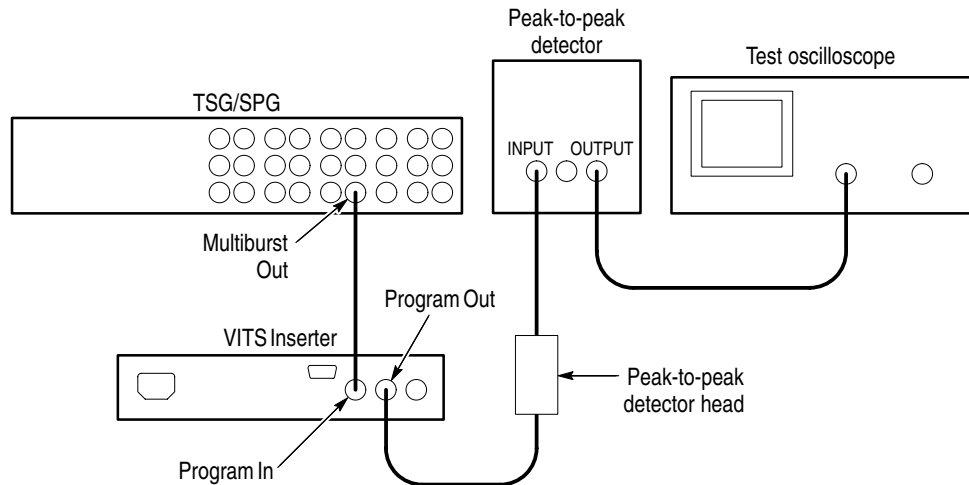

Figure 5–12: Measuring frequency response
11. Check that the sweep envelope matches the previous waveform ± 4.3 mV from 2 MHz to 6 MHz (second marker to fourth marker). See Figure 5–11.